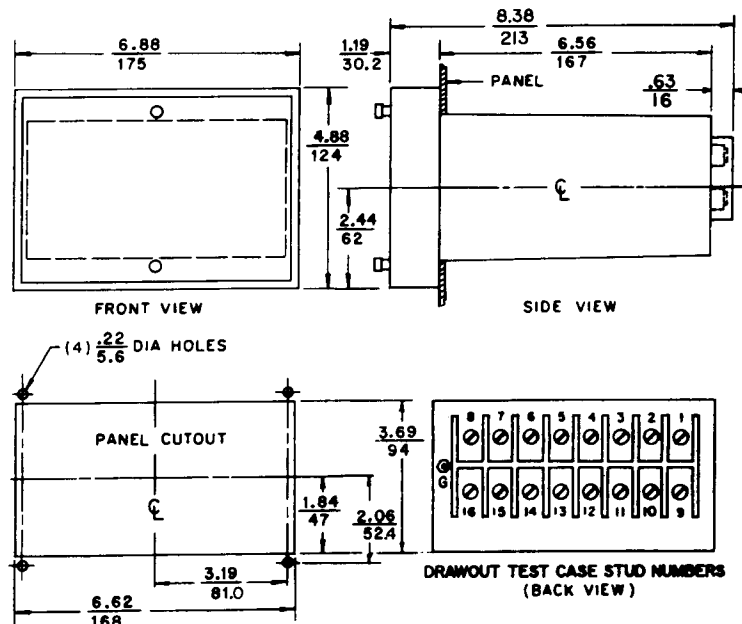

Figure 1: Relay Outline and Panel Drilling
**Mounting:** the outline dimensions and panel drilling are given in Figure 1.